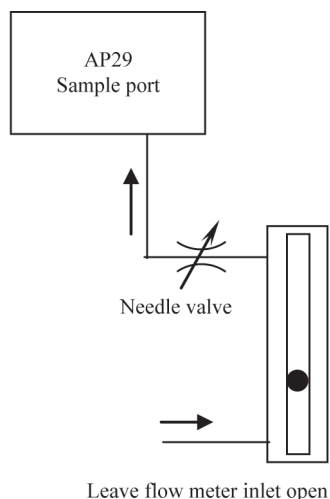

Figure 22 Adjusting flow alarm switches.
Refer to Figure 22 and adjust flow alarm switches as follows:
5. Connect the sampling hose to the flow meter and needle valve (fully open). See Figure 22.
IN_2 = Analyzing flow switch (B01), IN_4 = Sampling flow switch (B02). See Figures 22 and 23.